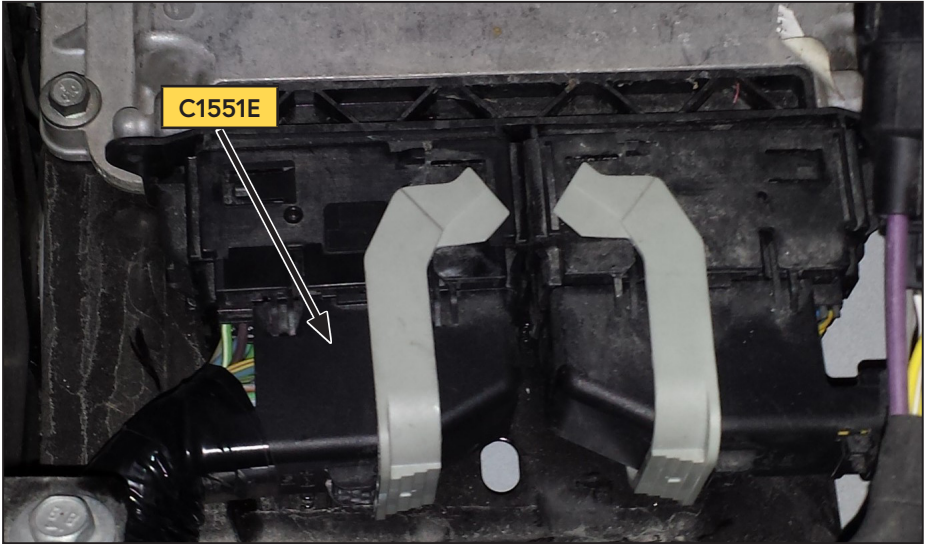

Figure 67 — Powertrain Control Module
- Locate the Powertrain Control Module (PCM) behind the driver side headlight (Figure 67).
- The passenger side plug of the PCM is C1551E; lift the grey tab and pull the connector up to remove it (Figure 67).